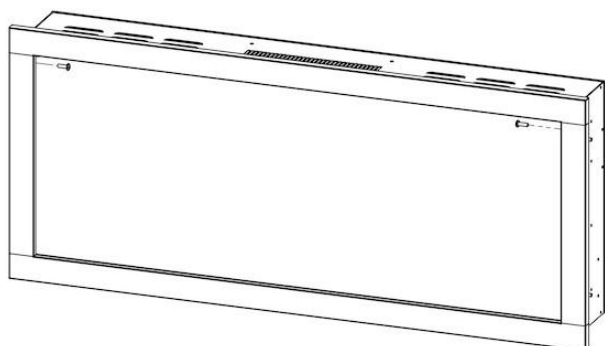

Fig. 1-1
- Take off the screws on both sides. (Fig. 1-1)